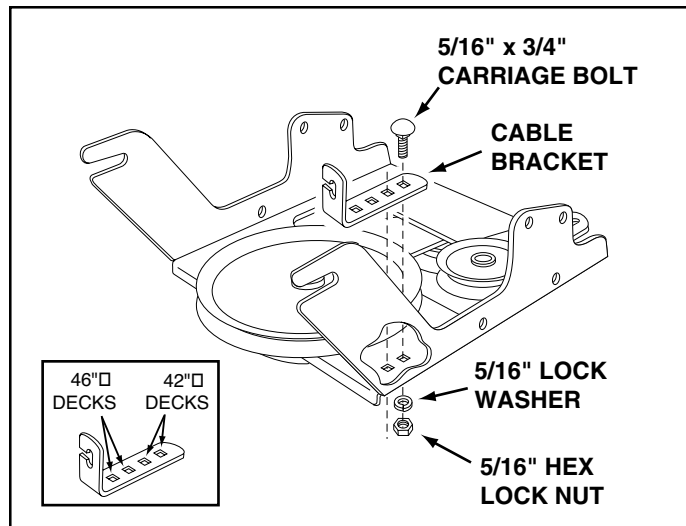

**FIGURE 14 VIEWED FROM UNDERNEATH**
- Assemble the short "V" belt onto the engine pulley and then onto the large pulley on top of the clutch/idler assembly. The belt must be placed to the inside of the engine pulley keeper, the idler pulley and the keeper bolt located beside the large pulley. See figure 14.